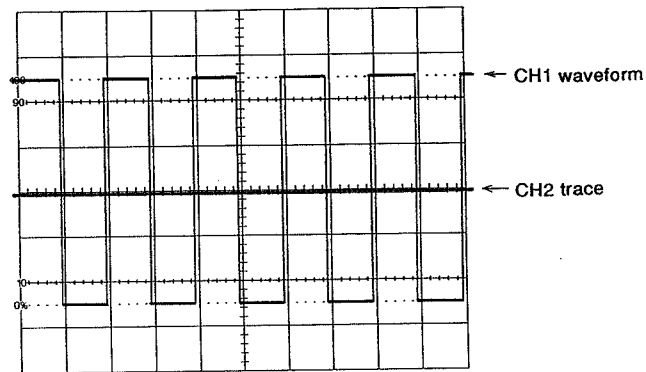

Figure 4-1
- (2) Connect the power cord to the rated power line voltage.
- (3) Press the POWER switch. The pilot lamp lights. The square wave and CH2 trace are displayed about 10 seconds after as shown in Figure 4-1.
- (4) Adjust the FOCUS control for optimum trace sharpness.
- (5) If the trace is tilted, adjust ROTATION adjustment using a flat-head screwdriver so that the trace is paralleled to a horizontal graticule line.